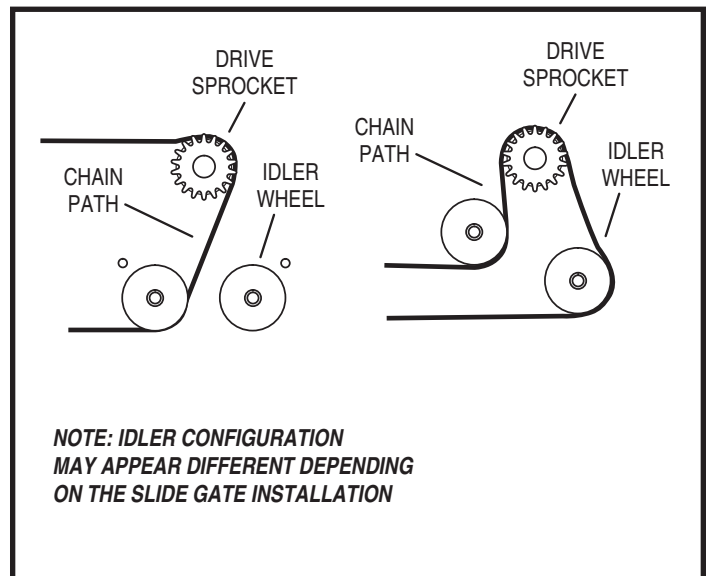

Figure 4B. Tail Mount Chain Path
Slide a threaded chain pin (5) through the bracket as shown, with spring (6), flat washer (10), and two hex nuts (7). Attach one end of the drive chain (8) to the chain pin using master link (9) and begin unrolling the chain toward the operator. An optional Tail Mount configuration is shown in Figure 4B.